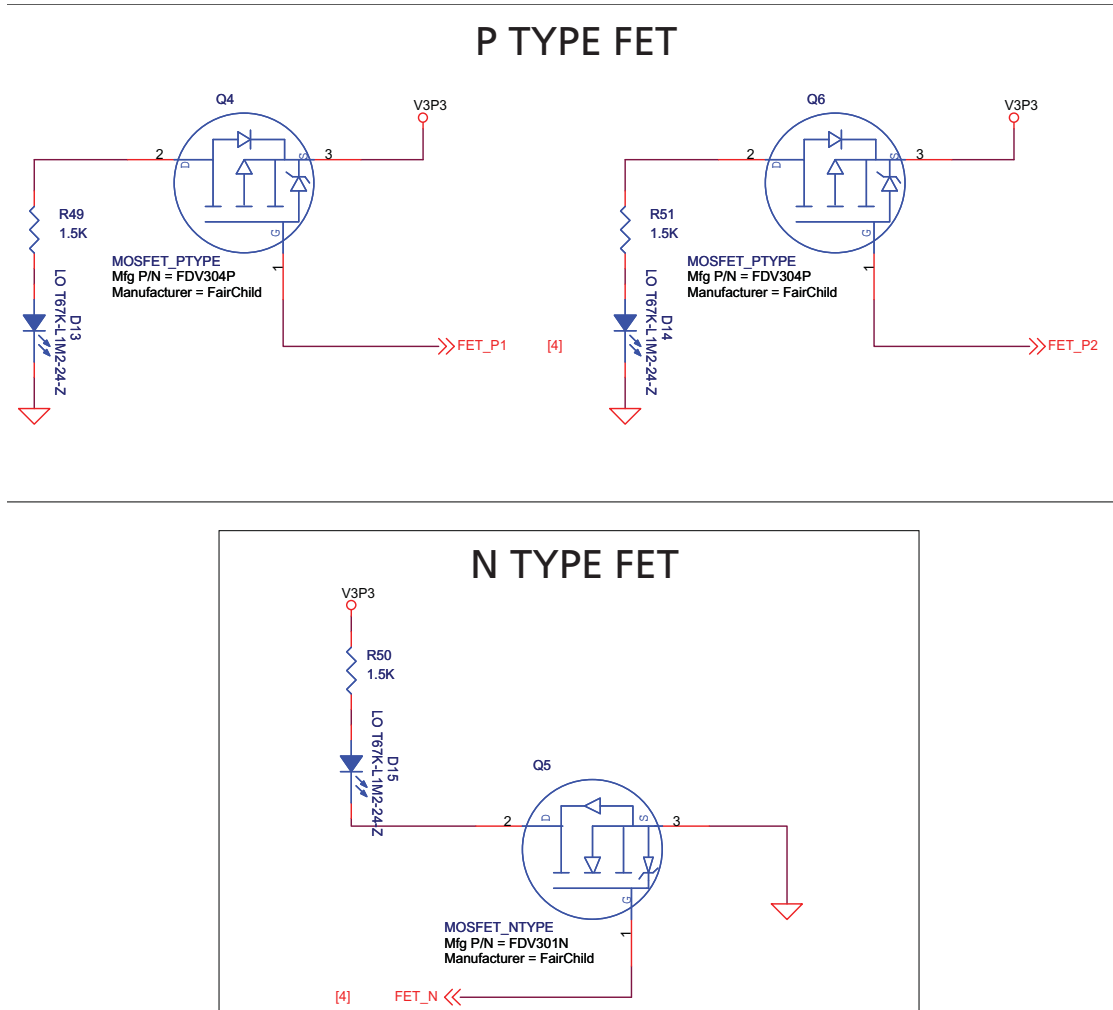

Figure 4-10 · FET LEDs for Debugging
These FET LEDs can be used for debugging, such as for viewing the state of I/Os in Flash\*Freeze mode. These LEDs can be activated (ON) before entering Flash\*Freeze mode, and have the ability to remain activated (ON) in Flash\*Freeze mode. In low-power or Flash\*Freeze mode, the FET LEDs can continue to function normally. There is one N-Type FET LED and two P-Type FET LEDs on the board (Figure 4-10). Refer to “Demo 4 – Flash\*Freeze Variant: Configuration Settings of Demo Design” on page 52, which will help demonstrate the Flash\*Freeze variants.